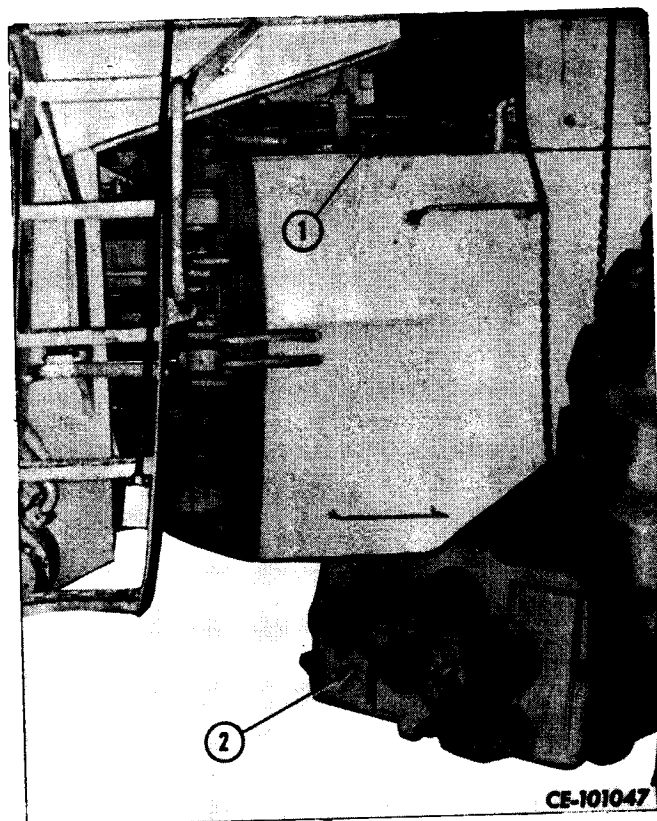

Figure 4-19
Position transmission (2, Fig. 4-19) under tractor. Attach chain hoist (1) to lifting eyes and raise transmission into tractor. Attach mounting plates (4, Fig. 4-10) with bolts and lock washers. Tighten bolts to recommended torque (refer to "SPECIAL TORQUES").